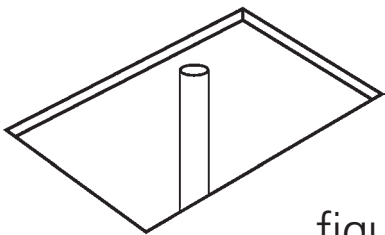

figure 8
3. Determine the location of the drain pipe, and air line (on units with Airbath Systems) on the floor by taking measurements of the drain and waste location underneath the unit (figure 8).